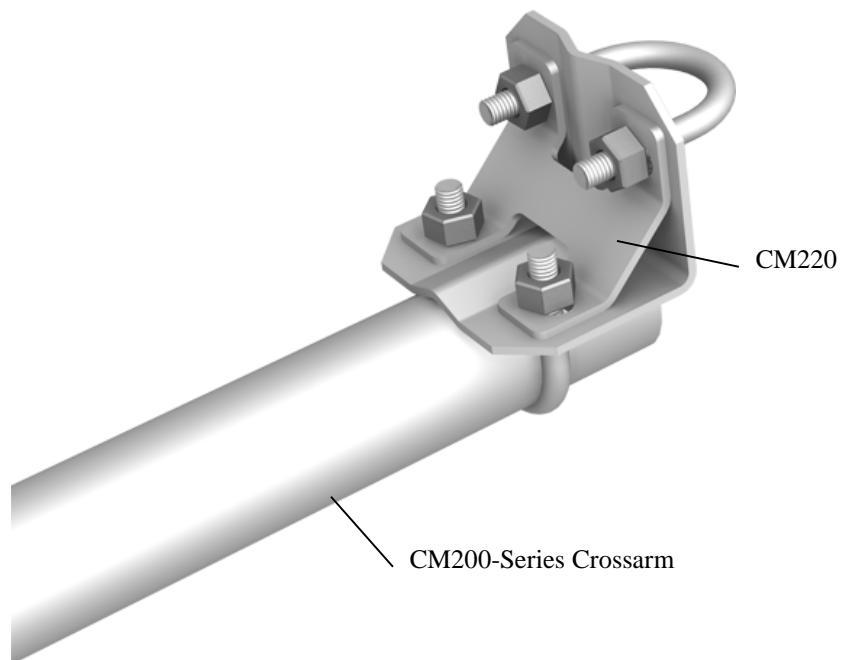
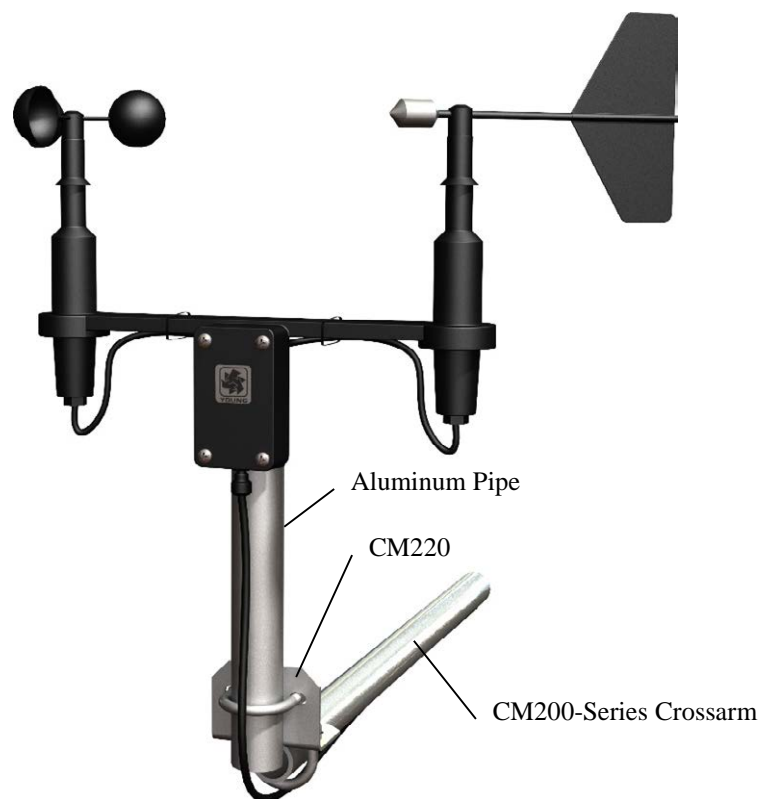
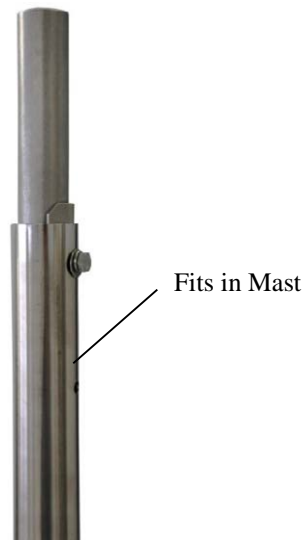
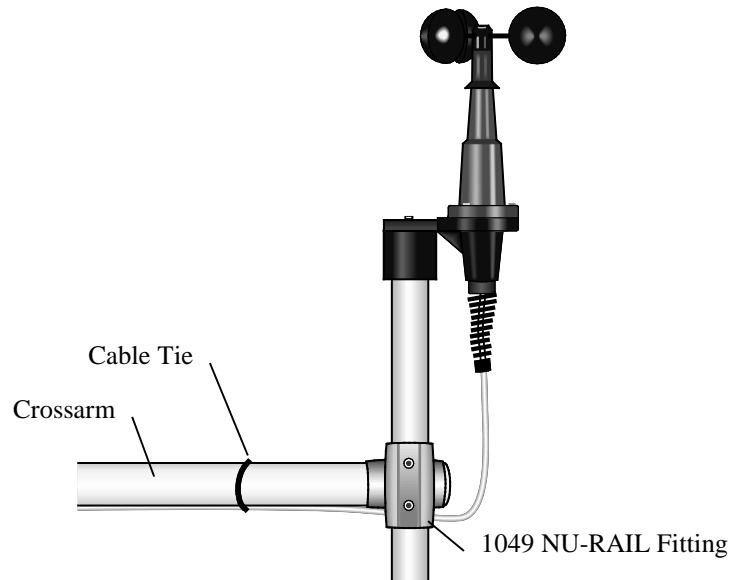

FIGURE 4-1. CM200-Series Crossarm with CM220 Right Angle Mounting Bracket
FIGURE 4-2. 03002 mounted to CM200-Series Crossarm with CM220
FIGURE 7-1. The CM216 allows an 03002 or 03101 to mount atop the mast of a CM110, CM115, or CM120 tripod
FIGURE 7-2. 03101 mounted to a crossarm via a 1049 NU-RAIL
- CM220 Right-Angle Mounting Kit (FIGURE 4-1 and FIGURE 4-2),
The 03002 mounts to a standard 1.0 inch IPS schedule 40 pipe (1.34 inch O.D.). A 12-inch-long mounting pipe ships with the 03002. The mounting pipe typically fastens to a CM200-series crossarm via the CM220 mount or 17953 NU-RAIL fitting. Section 4, *QuickStart* (p. 2), describes mounting the 03002 using a CM220 mount or a 17953 NU-RAIL fitting. The 03002 can also be mounted at the top of a CM106B, CM110, CM115, or CM120 tripod with the CM216 (see FIGURE 7-1). The CM216 extends 10 cm (4 in) above the mast of the tripod.
3. Secure the 3/4 inch IPS, 10 inch long, threaded aluminum pipe (pn 7623) to the CM220 mount (see FIGURE 4-1 in Quickstart), 1049 NU-RAIL (FIGURE 7-2), or CM216 (see FIGURE 7-1).